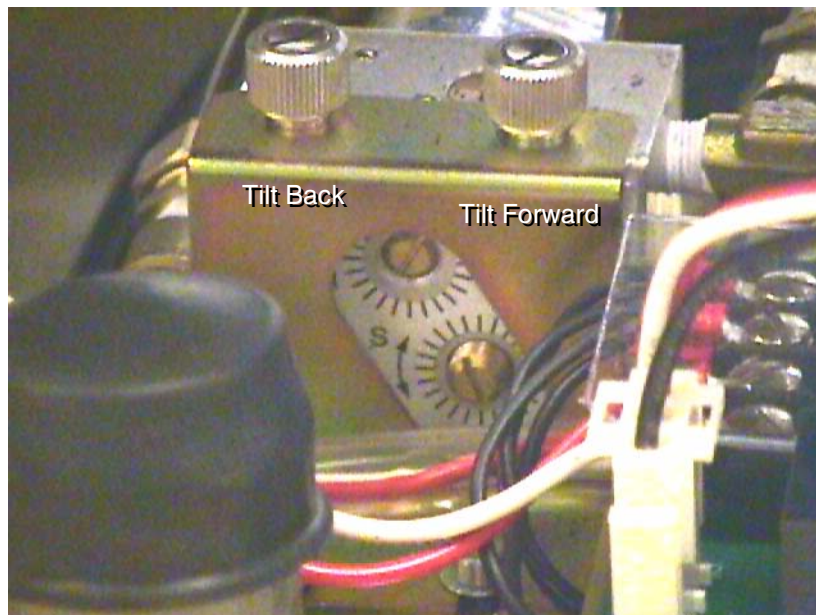

Figure 8-7 Tilt Speed Adjustment Screws
- 3.) From zero (0) degrees tilt, press and hold the tilt forward button,  until the gantry display reads S25. Observe the tilt speed using a time piece.
- 5.) Adjust the forward speed control valve for one (1) degree per second motion (see Figure 8-7).
- 6.) Adjust the backward speed control valve for one (1) degree per second motion (see Figure 8-7).